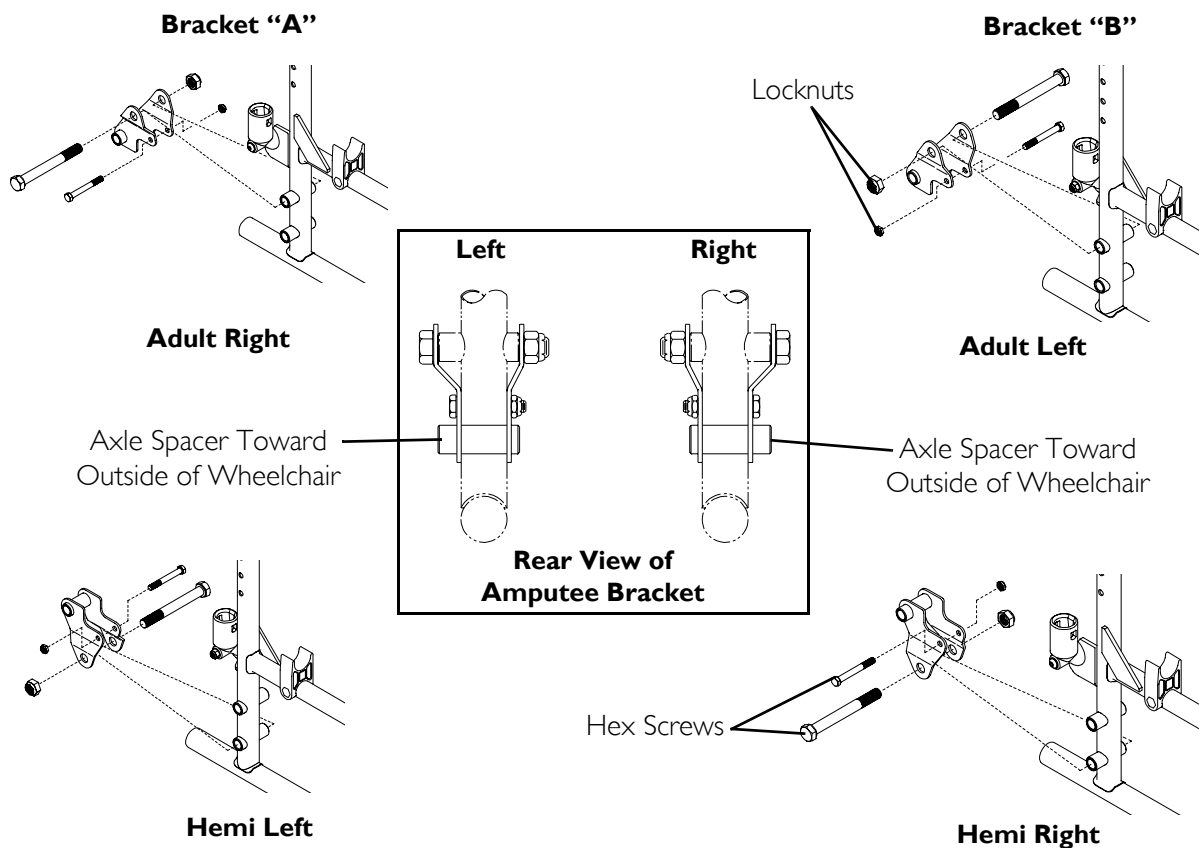

FIGURE 12.1 Installing Amputee Bracket
NOTE: For this procedure, refer to FIGURE 12.1 on page 61.
1. Refer to the following chart or FIGURE 12.1 to determine the mounting position of the amputee bracket: